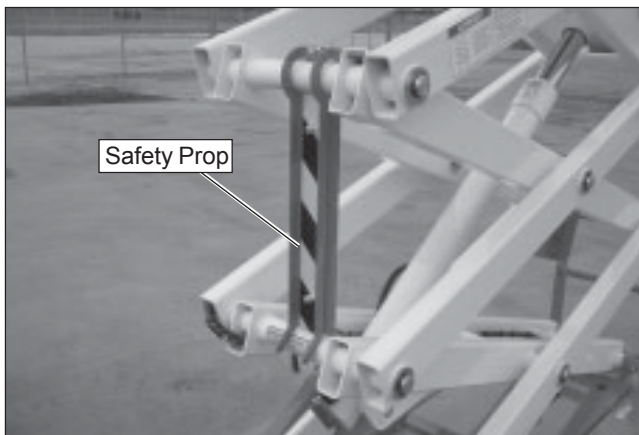

Figure 8.4 – Safety Prop
Using the lower controls, raise the platform until the open height between the arm pins is wide enough to position the safety prop. Refer to Figure 8.4.
2. Using the lower controls, raise the platform until the open height between the arm pins is wide enough to position the safety prop. Refer to Figure 8.4.